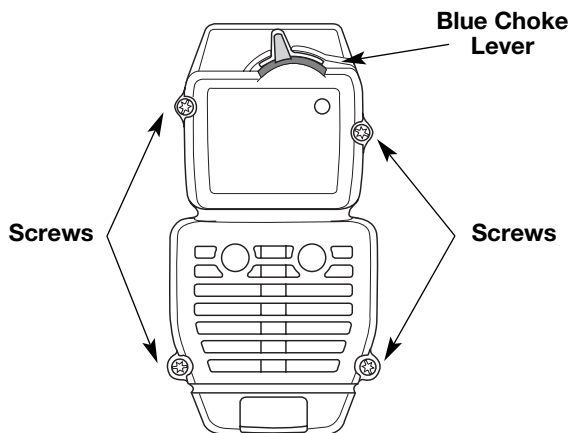

Fig. 24
2. Remove the four (4) screws securing the air filter/muffler cover (Fig. 24). Use a flat blade or T20 Torx bit screwdriver.
2. Insert the four (4) screws into the holes in the air filter/muffler cover (Fig. 24) and tighten.